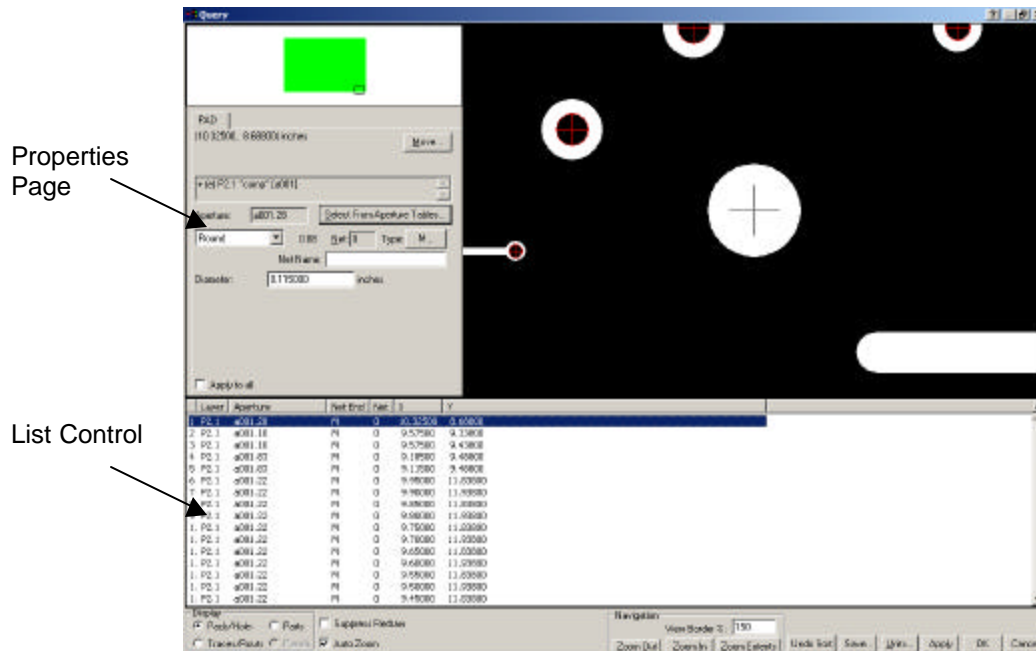

Figure 10: The Query Window
- Select **Tools > Query** and the Query window will appear (see Figure 10)